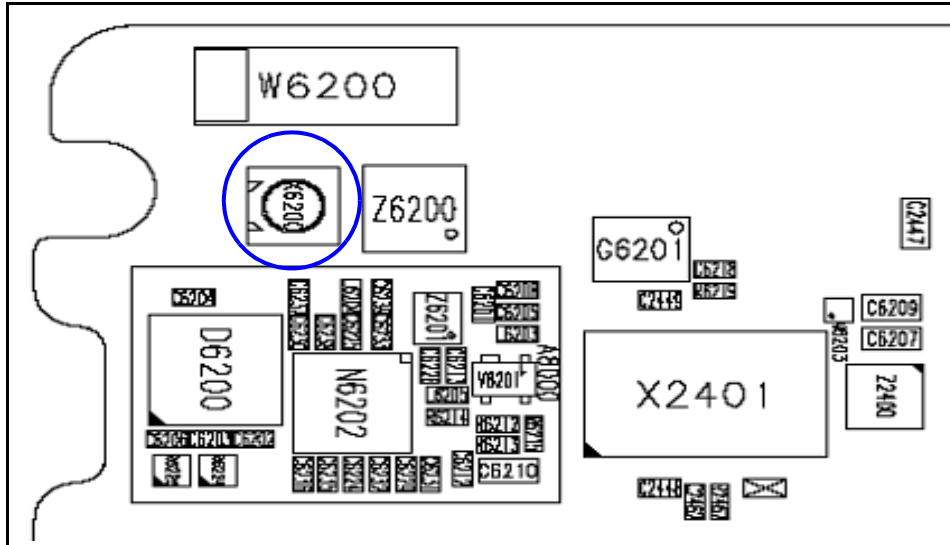

Figure 52: X3155 on the bottom side of the UI PWB
3. Inject a -50dBm tone at 1575.52MHz at the GPS connector (X6250) with a signal generator or a call box. (See Figure 52.)